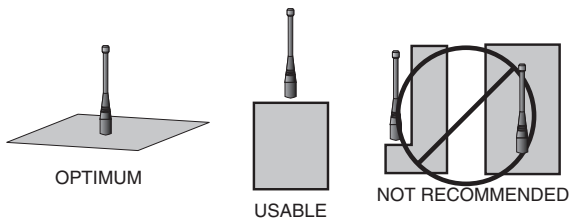

Figure 38: Ground Plane Orientation
2. Optimum performance is obtained from a  $\frac{1}{4}$ - or  $\frac{1}{2}$ -wave straight whip mounted at a right angle to the ground plane (Figure 38). In many cases, this isn't desirable for practical or ergonomic reasons, thus, an alternative antenna style such as a helical, loop or patch may be utilized and the corresponding sacrifice in performance accepted.